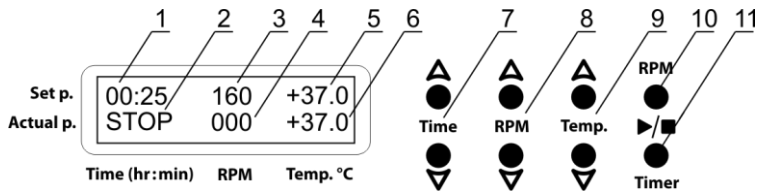

Figure 1. Control panel
5.3. The display turns on. The upper line shows the previously set time in hours and minutes (fig. 1/1), speed in RPM (fig. 1/3) and temperature in °C (fig. 1/5). The lower line shows current readings of the same parameters: the timer (indication STOP, fig. 1/2), speed (fig. 1/4) and chamber temperature (fig. 1/6) that automatically starts rising according to the set temperature.
5.5. The display turns on. The upper line shows the previously set time in hours and minutes (fig. 1/1), speed in RPM (fig. 1/3) and temperature in °C (fig. 1/5). The lower line shows current readings of the same parameters: the timer (indication STOP, fig. 1/2), speed (fig. 1/4) and chamber temperature (fig. 1/6) that automatically starts rising according to the set temperature.
5.6.1. **Setting time (Time).** Using the ▲ and ▼ **Time** keys (fig. 1/7) set the required working time interval in hours and minutes (increment 1 min).
5.6.2. **Setting speed (Shaker).** Using the ▲ and ▼ **RPM** keys (fig. 1/8) set the required shaking intensity in revolutions per minute (increment 10 rpm).
5.6.3. **Setting temperature (Temp.°C).** Using the ▲ and ▼ **Temp.** keys (fig. 1/9) set the required temperature (increment 0.1°C). The chamber heating starts automatically.
Caution! The chamber heating can only be stopped manually by reducing the temperature with the ▼ **Temp.** key (fig. 1/9) until the OFF indication appears in the upper line of the **Temp.°C** display segment.
5.7.2. Press the **Shaker** ►/■ key (fig. 1/10). The platform starts rotating and the timer starts counting the time interval, with 1-minute precision.
5.8. **Finishing the program.** After the set time elapses, the platform motion stops, and the display shows a flashing reading STOP (fig. 1/2) accompanied by a repetitive sound signal until the **Shaker** ►/■ key is pressed.
5.9. If the working time is not set and the timer in the upper line (fig. 1/1) shows 00:00, pressing the **Shaker** ►/■ key starts continuous operation of the unit. The **Time** segment of the display shows an OFF indication in the upper line (fig. 1/1) and a countdown timer in the lower line (fig. 1/2). Pressing the **Shaker** ►/■ key stops the platform motion.
Caution! At the end of the set time, platform movement is stopped automatically, but heating can only be stopped manually by reducing the temperature with the ▼ **Temp.** key (fig. 1/9) until the OFF indication appears in the upper line of the **Temp.°C** display segment.
5.10. The timer can be restarted during the unit operation if necessary. Press the **Timer** ►/■ key twice (fig. 1/11), first time – to stop the timer, second – to restart it.